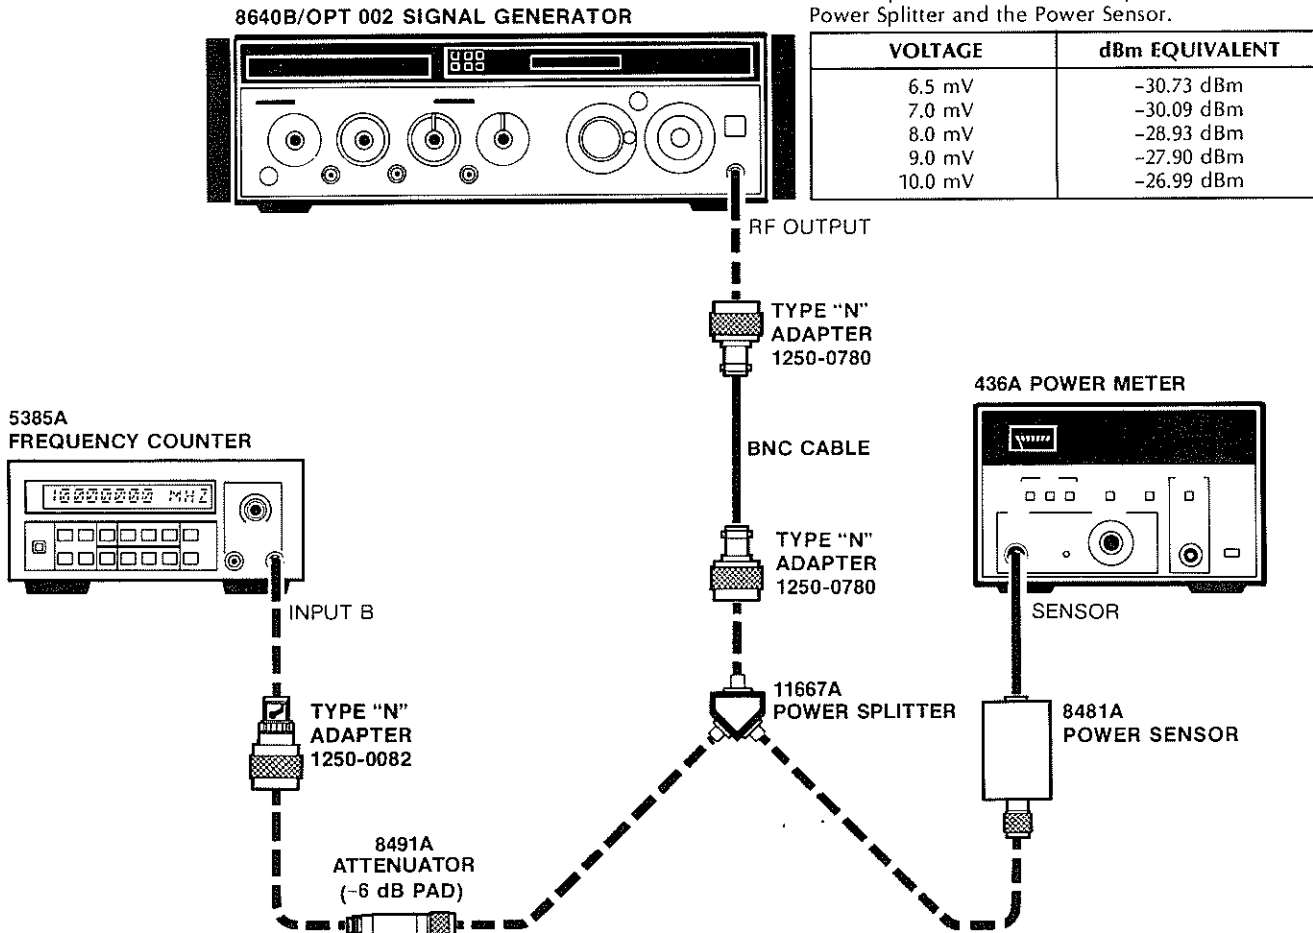

Figure 4-4. Channel B Frequency Response and Sensitivity Test Setup for 5385A
- a. Connect the signal generator and the power meter to the 5385A channel B input as shown in Figure 4-4.